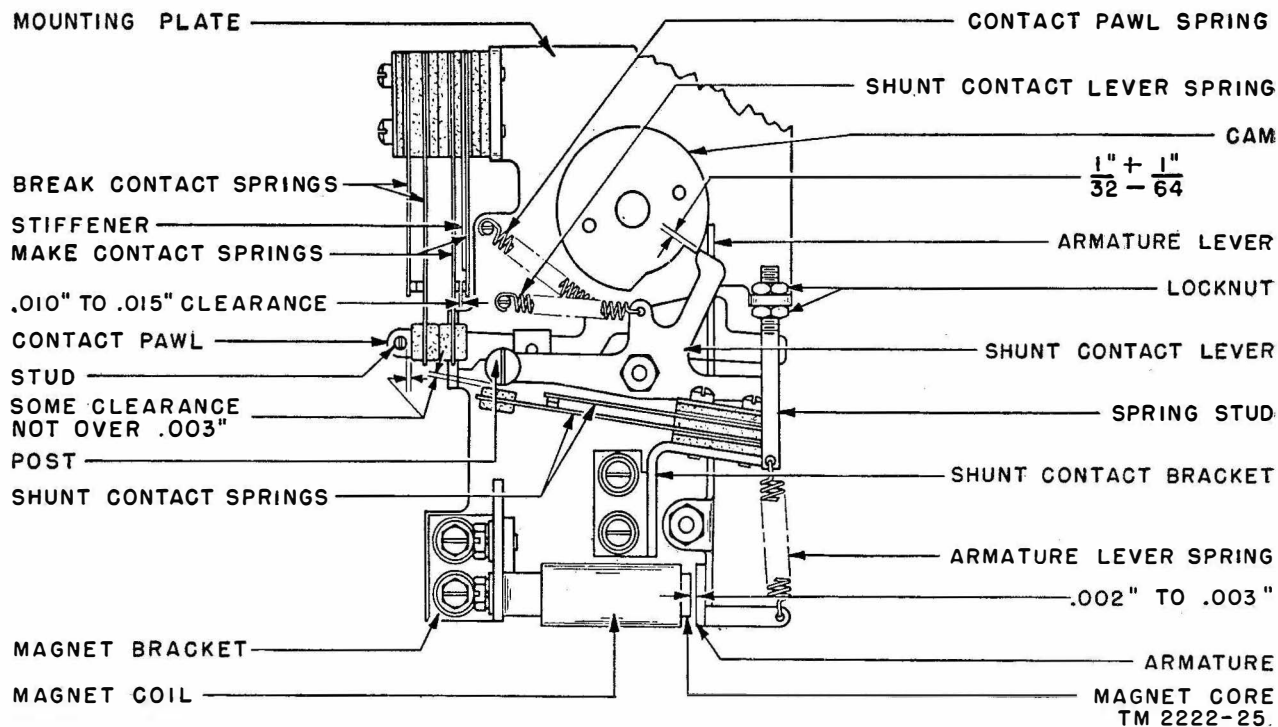

Figure 78. Mounting plate requirements.
### 140. Mounting Plate (fig. 78)
### 141. Magnet Bracket (fig. 78)
#### 142. Magnet Core (fig. 78)
#### 144. Shunt Contact Bracket (fig. 78)
- (1) Under the condition stated in *a* (1) above, there should be some clearance (not over 0.003 inch) between the insulator of the long break contact spring and the stud on the contact pawl (fig. 78).
- (2) Under the condition stated in *a* (2) above, hook an 8-ounce scale to the insulator on the long break contact spring and pull at right angles to the
(fig. 78)
- (1) The armature lever spring tension is set at the factory for use on 0.060-ampere, signal line circuits, with the break-lock mechanism operating so as to stop transmission if the signal line current is reduced to 0.020 ampere or less. A pull of 11 to 13 ounces is required to extend the spring to a length of  $1\frac{1}{2}$  inches when pulling horizontally (fig. 78).
- (2) The spring setting and operation of the break-lock mechanism must be checked by operating the transmitter distributor with its signal circuit in series with a local test (or comparable) circuit consisting of a source of 115 volts dc, a milliammeter, a variable resistor of approximately 6,000 ohms, and a jack, all in series. Adjust the resistor so that 0.020 ampere flows through the test circuit. Start the transmitter distributor in operation. If the transmitter distributor is equipped with an end-of-tape stop feature, it will be necessary to short-circuit the associated contact or to run tape through the transmitter. The break-lock mechanism should operate and stop transmission within 2 revolutions